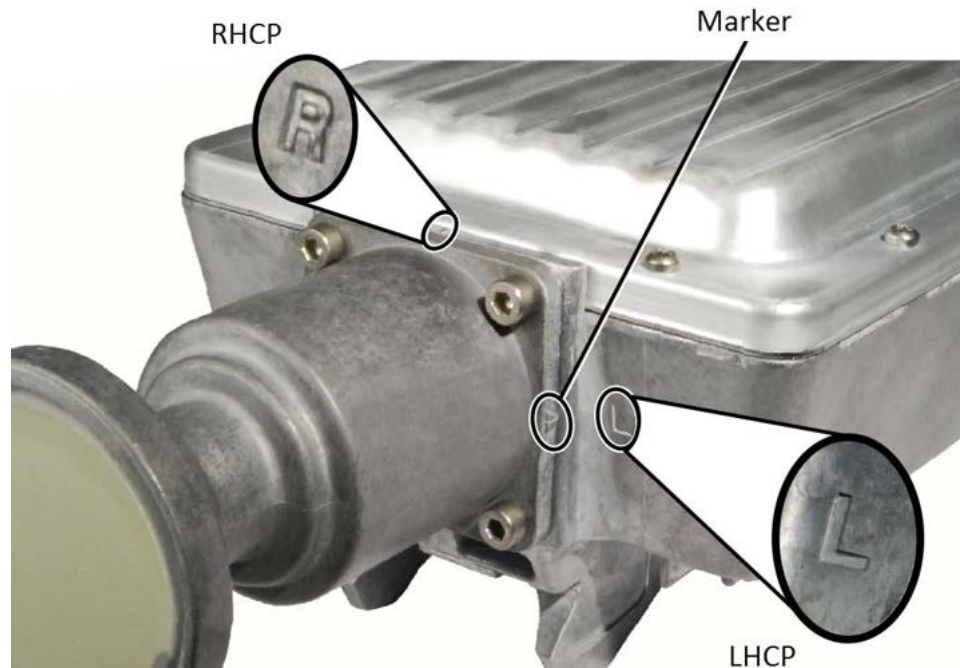

Figure 15: Determining the polarization setting of the radio
2. Refer to Figure 15 on page 32 and check the position of the polarizer on the radio.
For example, the radio shown in Figure 15 is set for LHCP, with the feed horn marker pointing to the L.